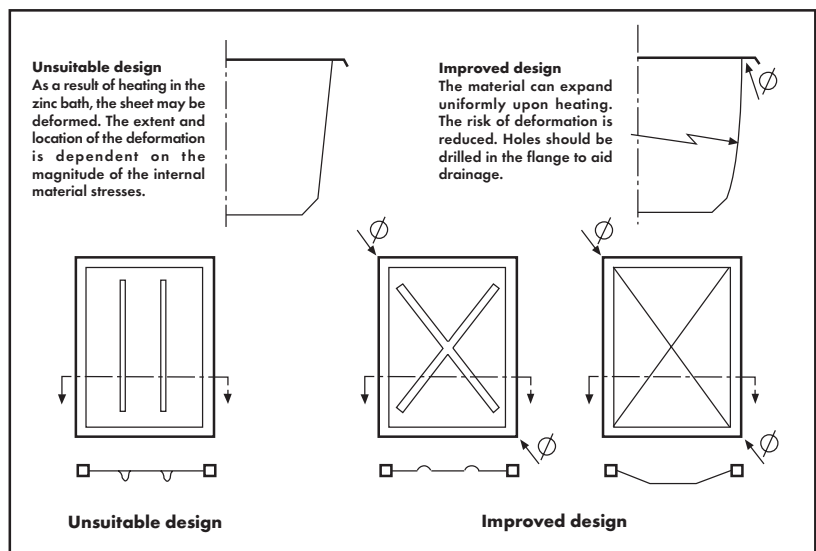

Figure 64.
- Use of stiffened sections, particularly when steel is unsupported and of less than 3 - 4mm thick (figure 64).